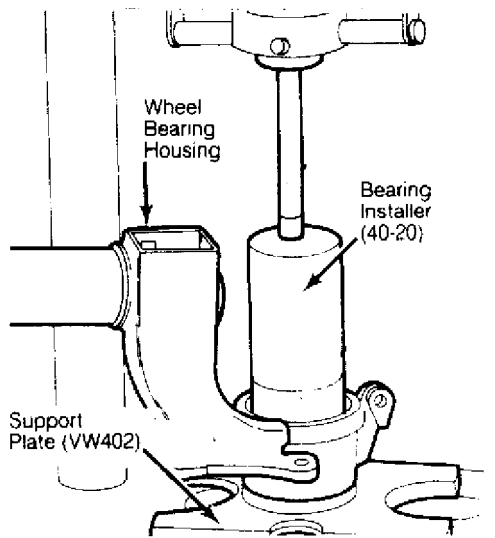

Fig. 2: Pressing Wheel Bearing
1) Using Bearing Installer (40-20) and Housing Support (VW402), press new bearing into bearing housing from outboard side. Using same Housing Support and Hub Installer (VW519), press wheel hub into bearing housing. Apply a small bead approximately 1/4" of D6 locking compound to the axle splines before installing in hub. See Fig. 2.